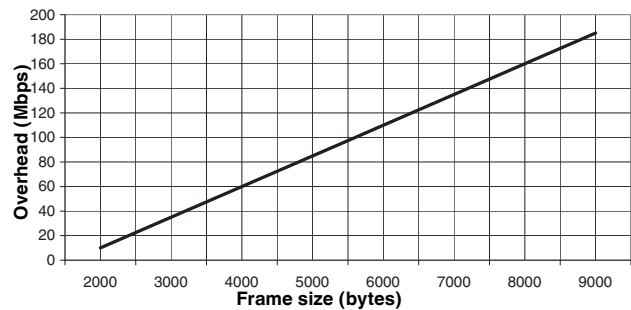
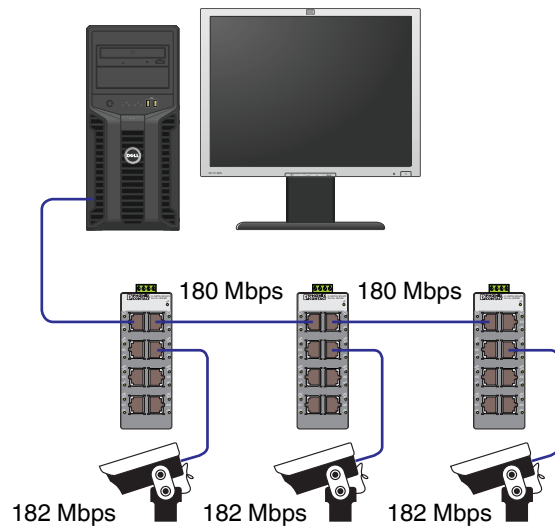

Figure 13 Overhead/cascaded switch vs. frame size
Figure 14 9000-byte frame size example
- Determine the traffic load for bandwidth consumed by application overhead and pause frames (see Figure 13). After the first switch, add this amount for each additional switch segment.
Figure 14 depicts an example with three cameras connected to individual switches. Each camera is configured for an **8 bits per pixel** color depth, creating a load of **182 Mbps** per camera (see Table 1) with a total traffic load of **546 Mbps**. Frame size is configured to 9000 bytes creating an overhead of **180 Mbps** (see Figure 13) for each cascading switch for a total of **360 Mbps**.